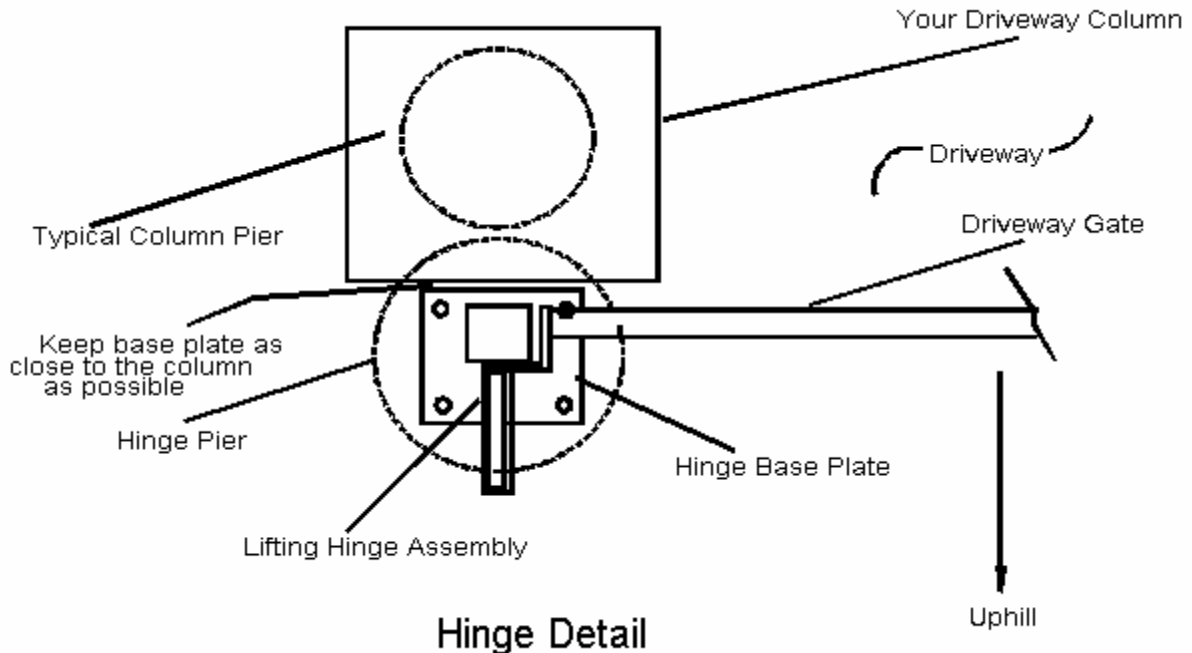

Figure 2
**New Construction:** Drill the piers to allow the placement of Lifting Gate Hinge in close proximity to the finished edge of the gate column if a gate column is used, see figure 2. Drill a pier hole 14" Dia. minimum and 7 feet deep. Remember deeper is better and if the soil is sandy or unstable consult with a soils engineer.
**Existing Column Installation:** Drill the pier to allow the placement of Lifting Gate Hinge in close proximity to the finished edge of the existing gate column, see figure 2. Drill a pier hole 14" Dia. minimum and 7 feet deep. Remember deeper is better and if the soil is sandy or unstable consult with a soils engineer.